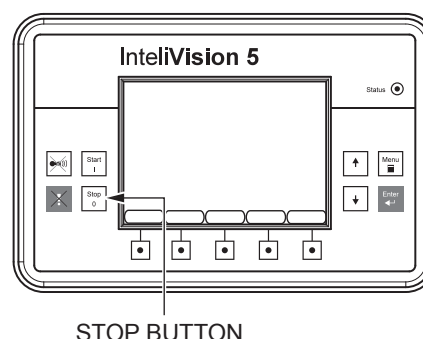

Figure 31. STOP Button
3. Press the **STOP** button (Figure 31) on the controller. The engine will go to idle mode.
1. Press the **STOP** button twice (Figure 31) on the controller to shut down the engine.